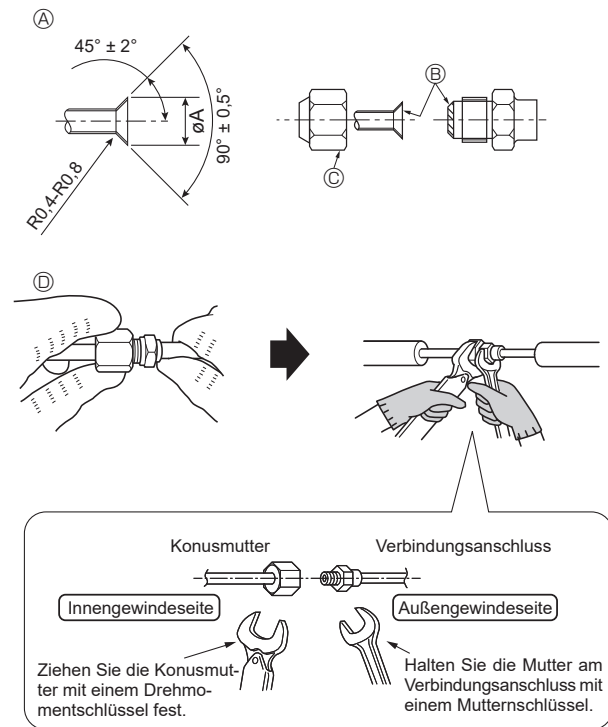

Abb. 4-1
4.2. Rohranschlüsse (Abb. 4-1)